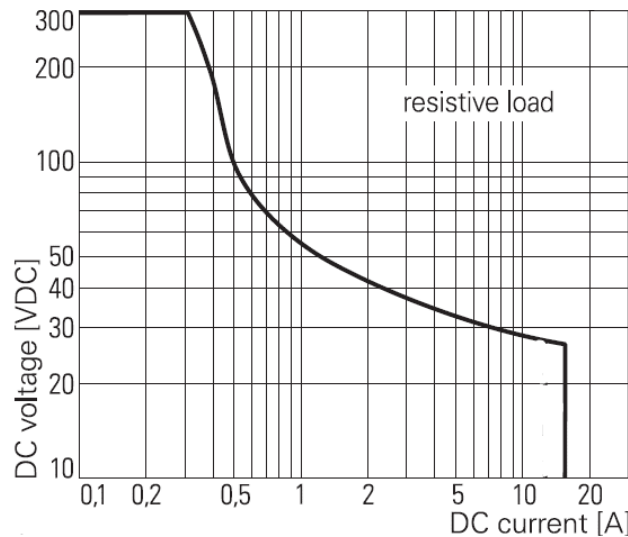

Figure 3-3: Max. DC load breaking capacity
* For DC Voltage and Current, refer Figure 3-3.